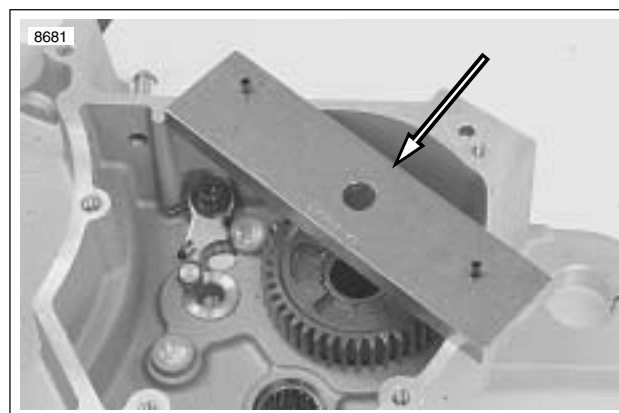

Figure 6-78. Bearing Remover Cross Plate Mounting (Part No. B-45847)
1. See Figure 6-78. Locate MAIN DRIVE GEAR REMOVER AND INSTALLER (Part No. HD-35316-A). Place cross plate pins in appropriate holes in transmission case.